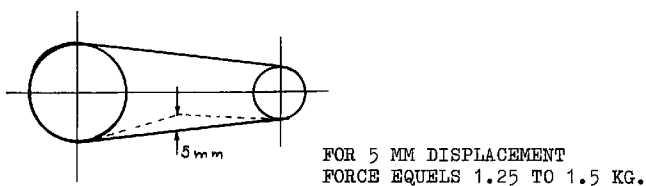

Fig. 7-39 ADJUSTING OF THE BELT
7. Adjust tension of drive belt. See fig 7-39.